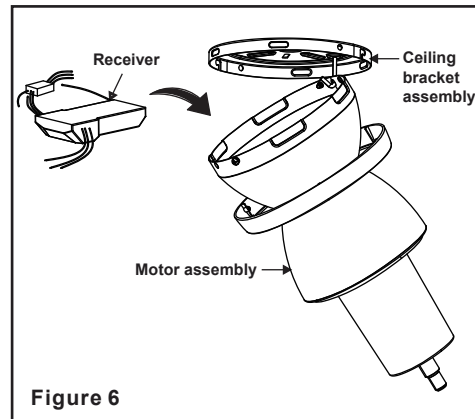

Figure 6
1. (Figure 6) Insert the receiver into the Ceiling bracket assembly with the flat side of the receiver facing the ceiling.